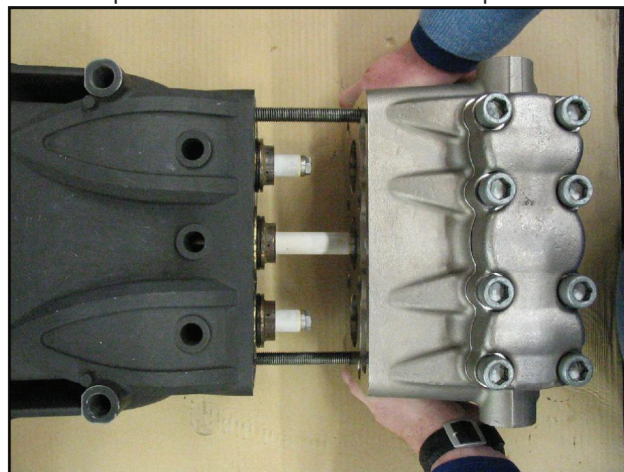

Fig. 33
- B) Lubricate ②③⑤ components with OCILIS silicone grease code 12001600. This operation is also deemed necessary to facilitate adjustment of the lip seal on the piston.
2. Using two screws – service pins (code 27726000), fasten the casing as indicated in Fig. 33. Position the complete head, making sure that it is centred only on the central piston.